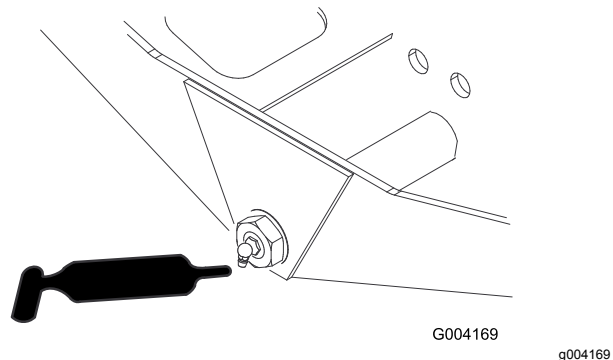

Figure 51
- Axle-steering pivot (1)—Figure 51